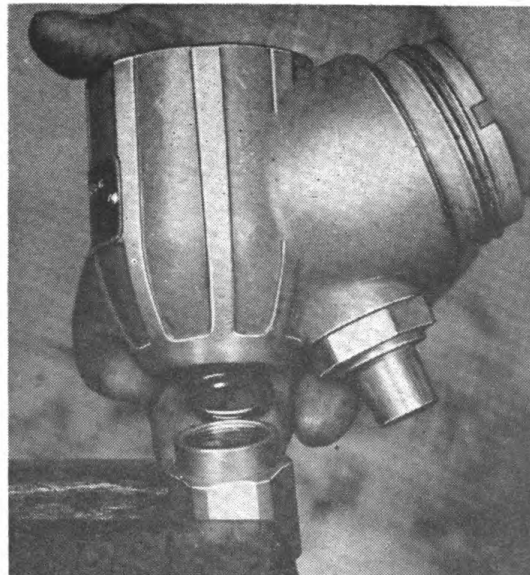

Figure 232
(4) When the cylinder is removed the outlet valve adapter should also be removed and the gasket replaced (See Figure 232). When reassembling make certain that the release valve outlet is on top, and that the high pressure cylinder is tightened so that the outlet valve adapter is pressed firmly against the gasket.